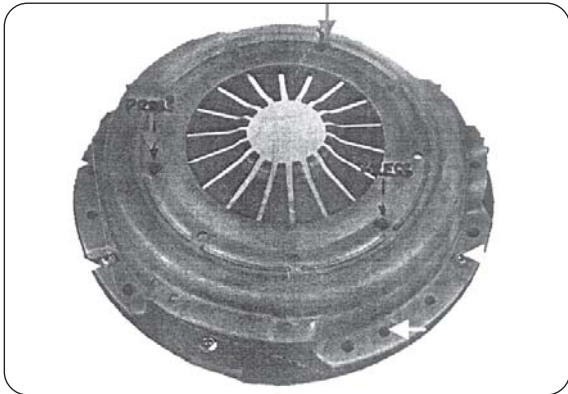

Fig. 7
6. Then loosen the mounting bolts and rotate the inner plate and keep the delta rivet for riveting. See fig.7.